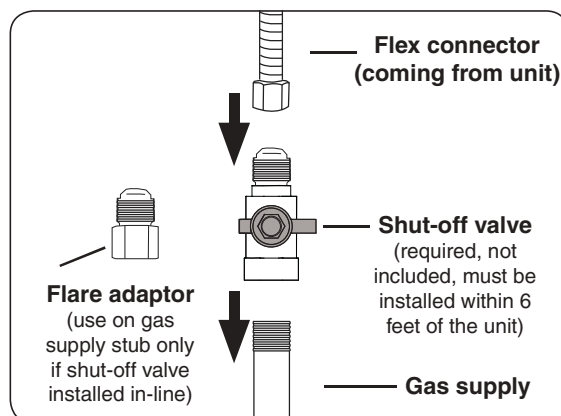

Fig. 16-2 Connecting to a gas line
- Connect the flex connector to the shut-off valve (see Fig. 16-2). Tighten securely.
- Install the supplied flare adapter to the gas supply using a pipe joint compound resistant to all gasses (see Fig. 16-2). Tighten securely.
- Connect the flex connector to the flare adapter (see Fig. 16-2). Tighten securely.